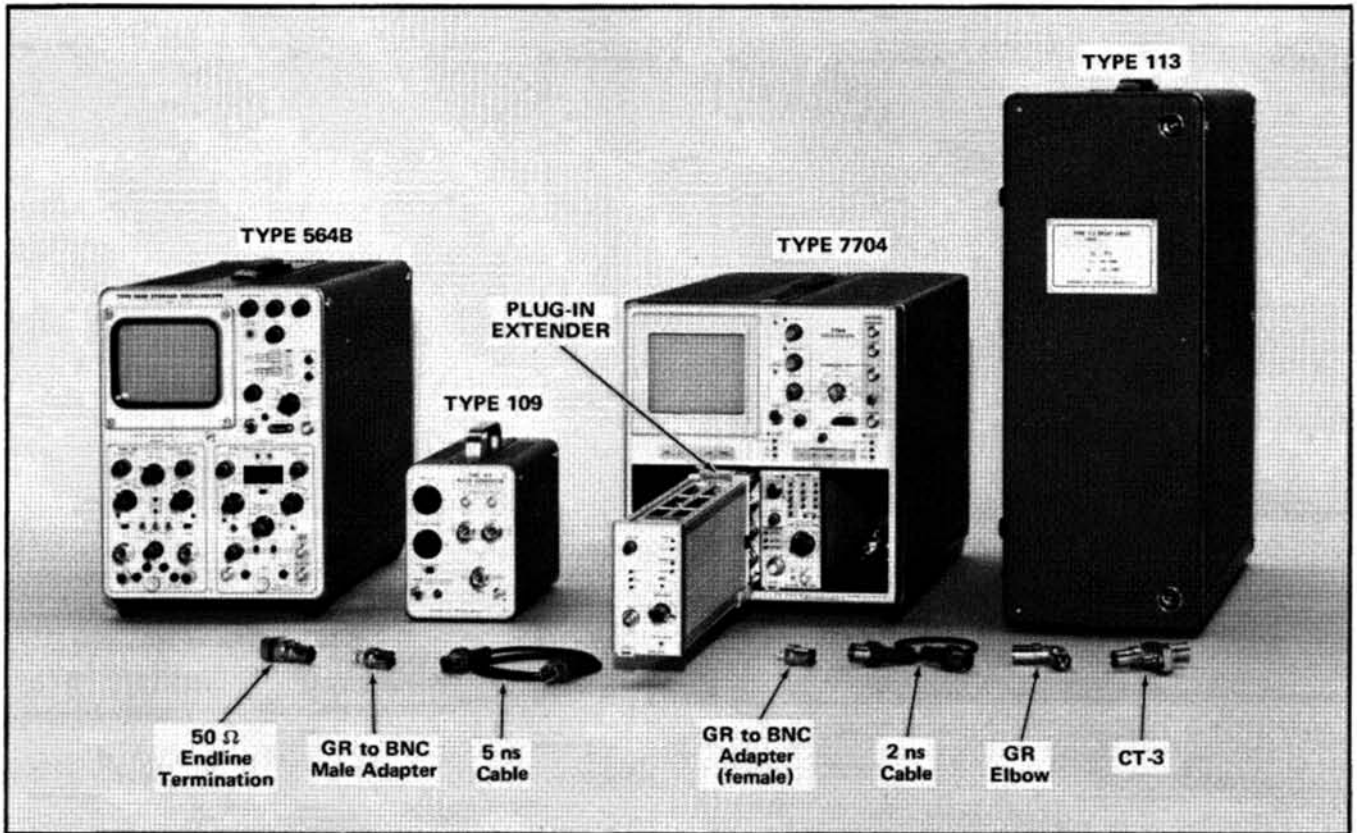

Fig. 5-4. Test equipment required for steps 18 and 20.
- Test equipment required is shown in Fig. 5-4.